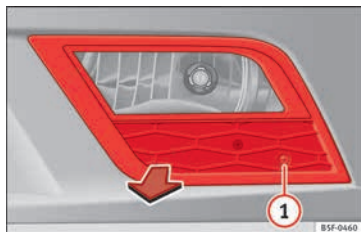

Fig. 110 Front fog light.
- Remove the bolt » **Fig. 110** ① from the fog light grille with a screwdriver.